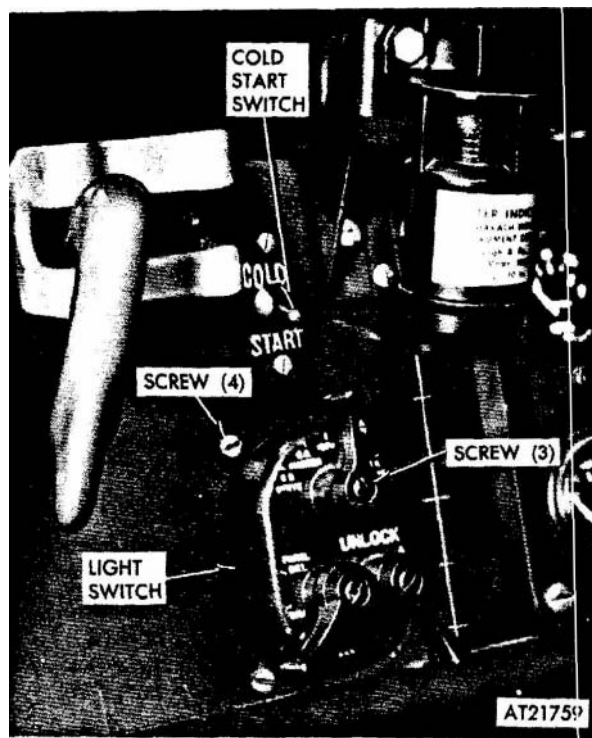

Figure 2-107. Light switch, removal and installation
(1) Remove connector plug from light switch assembly by reaching behind dash panel and unscrewing connector.
(2) Remove three switch levers from light switch by removing three screws (fig 2-107).
(3) Remove switch assembly from dash panel by removing four screws.
(1) Attach switch assembly to dash panel with four screws (fig 2-107).
(2) Connect connector plug to switch and tighten connector.
(3) Attach three switch levers to their respective positions and secure with three screws.
(4) Check switch assembly for proper operation.